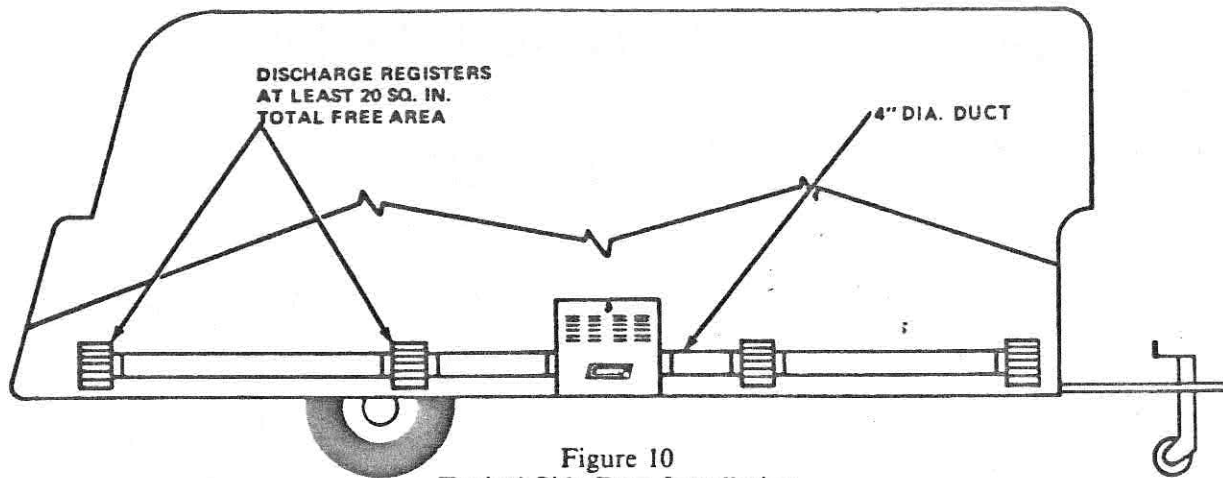

Figure 10
6. Refer to Figure 10 for an illustration of a typical side duct installation complete. Be sure to use discharge registers having a minimum of 20 square inches total free area.